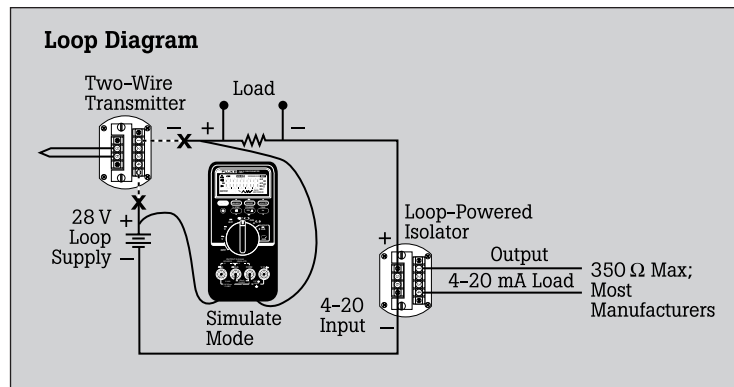

Figure 2
Fluke loop calibrators have a unique current simulation feature that, when connected to an external power source, allows you to precisely control current between 0 mA and 24 mA. When field checking a loop-powered isolator, the two-wire loop transmitter supplying signal current to the isolator for the loop may be removed and the calibrator connected in simulate mode to control loop current (Figure 2).
1. Disconnect the main loop transmitter and connect the Fluke 787 to the loop with the test leads plugged into the center or "Simulate" terminals of the calibrator (see Figure 2).
3. Place a Fluke 87, 187 or equivalent multimeter (1  $\mu$ A resolution is ideal; 10  $\mu$ A is acceptable), set in the mA measurement mode, on the output side of the isolator to monitor output current (see Figure 2).